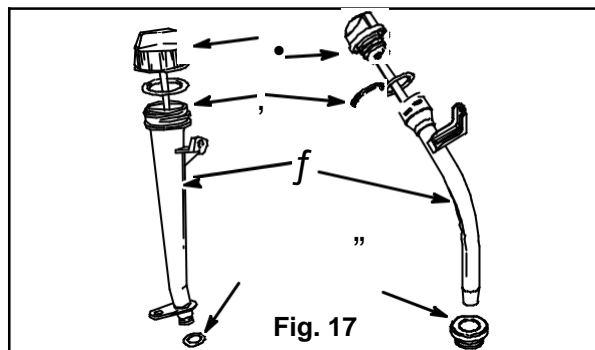

Fig. 17
The oil fill tube (3) and the dipstick (1) are equipped with O-rings (2) and/or a grommet (4) for proper sealing, **Fig. 17**.